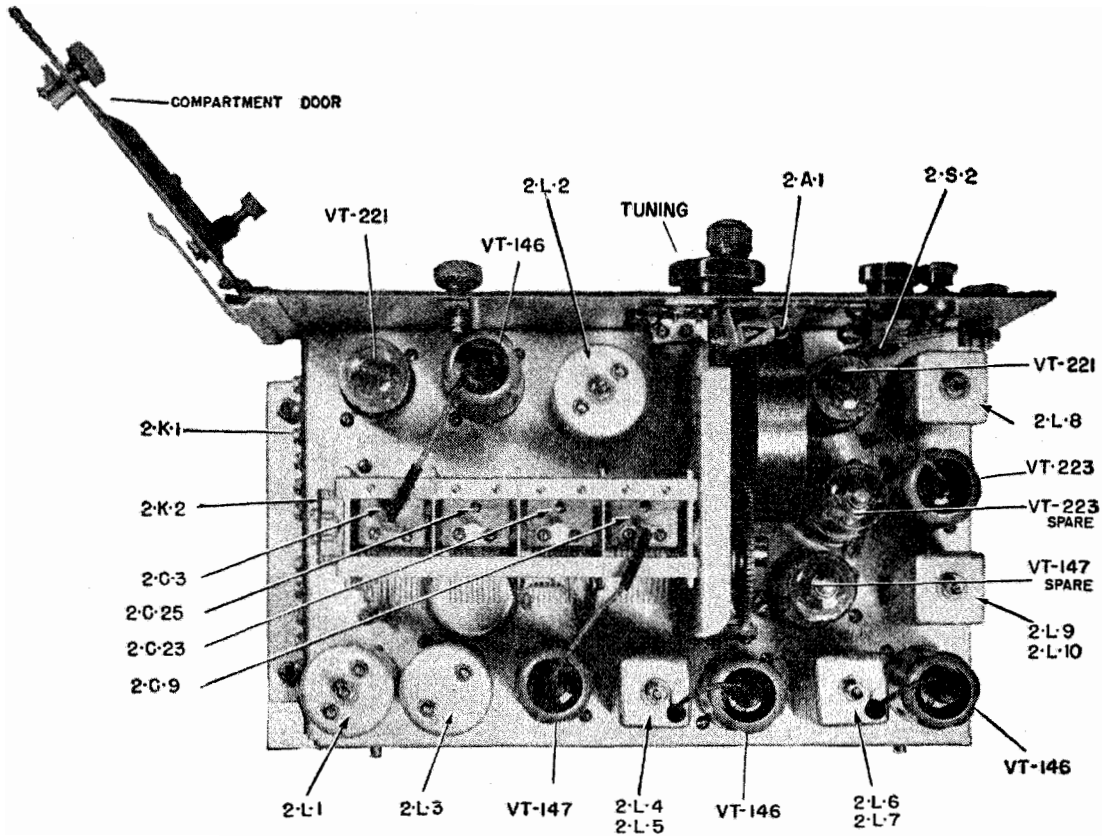

FIG. 32. RECEIVER CHASSIS (TOP VIEW)
**29. Alignment of the Receiver (FIGS. 32 & 33)**